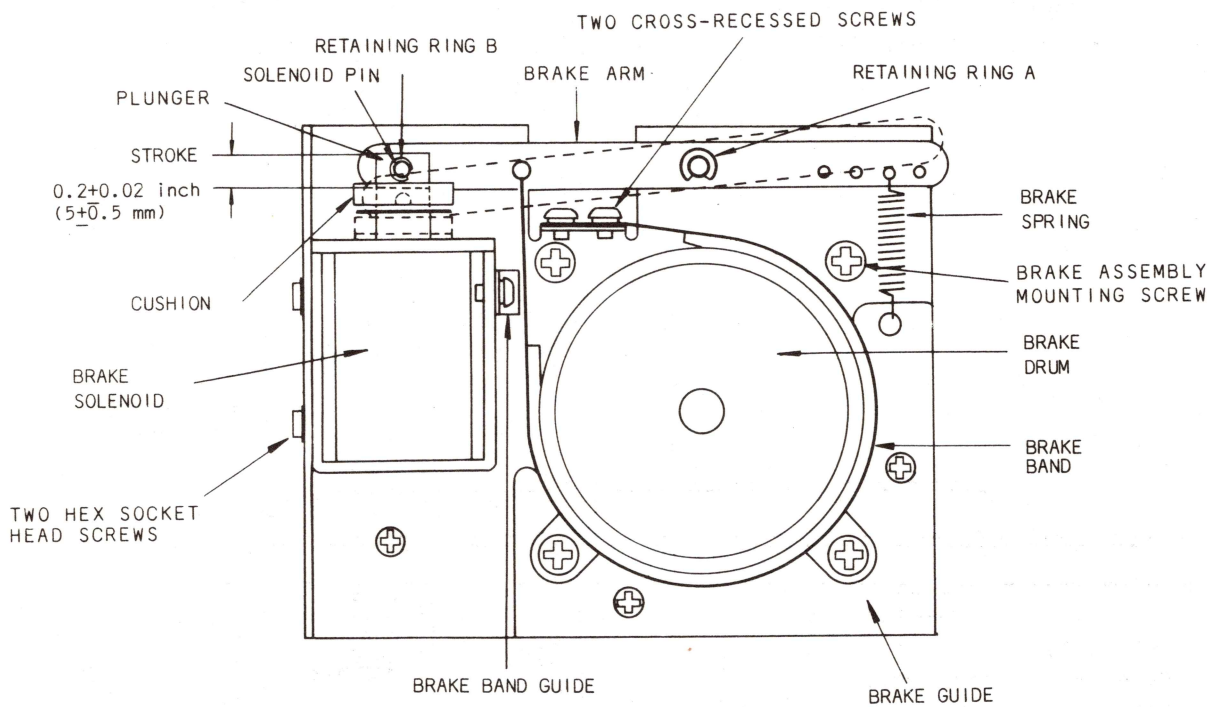

Figure 8-2 Brake Assembly
4. Remove the brake assembly and the brake drum by removing the four brake assembly mounting screws and two hex socket head screws on the bottom of the reel motor as shown in Figure 8-2 .
When a new brake arm assembly or new brake solenoid is installed (Figure 8-2), it is necessary to position the brake guide and/or brake solenoid to ensure uniform brake band clearance around the brake drum when the solenoid is energized.